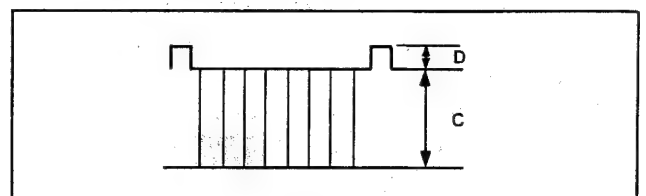

Fig. 11
6. Adjust R670 (Sub Contrast) so that the C is 55Vp-p at **TPKG** as shown in Fig. 11.
9. Adjust R3393 (RGB Sub Contrast) so that the C is 55Vp-p at **TPKG** as shown in Fig. 11.